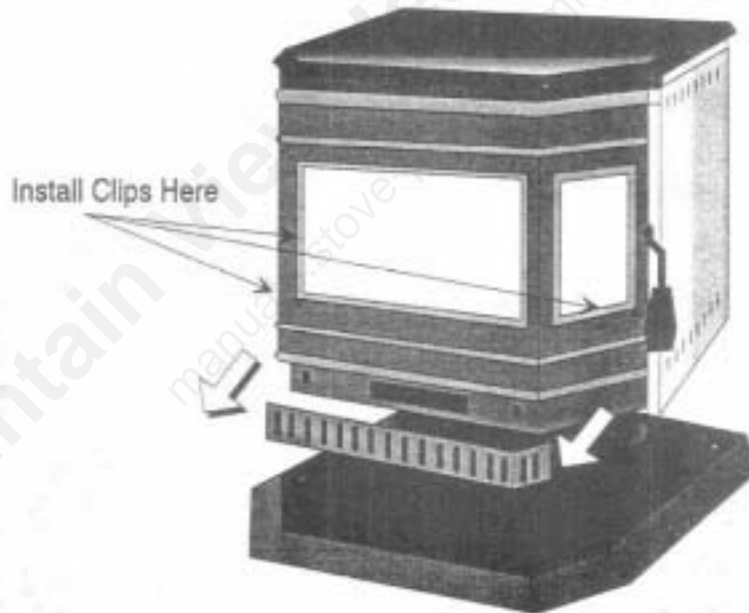

Figure 6
3. The window trim clip should go on the trim in the position shown below. Place the bottom of the trim into the window opening first and press firmly until the top of the window trim slips into the window opening. See Figure 6.
4. Next, remove the ash pan trim piece from its container. Attach it to the bottom front of the stove. The ash pan trim is attached using the two magnets mounted on either side of the ash pan trim piece. (See Figure 6)